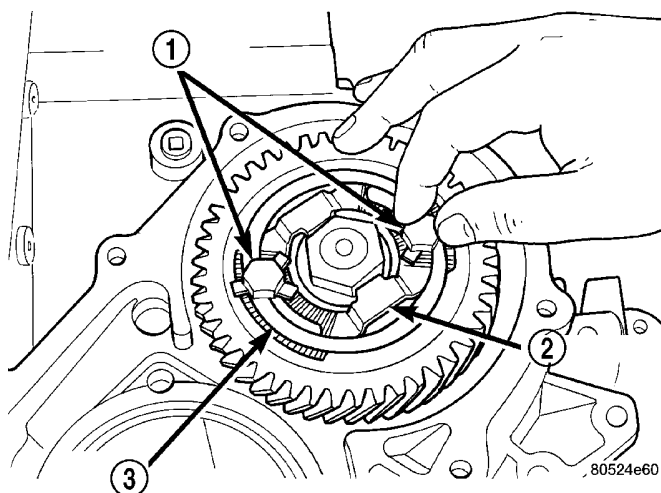

Fig. 121 Remove Strap Bolts
(2) Remove bolts holding retaining strap to stirrup (Fig. 121).